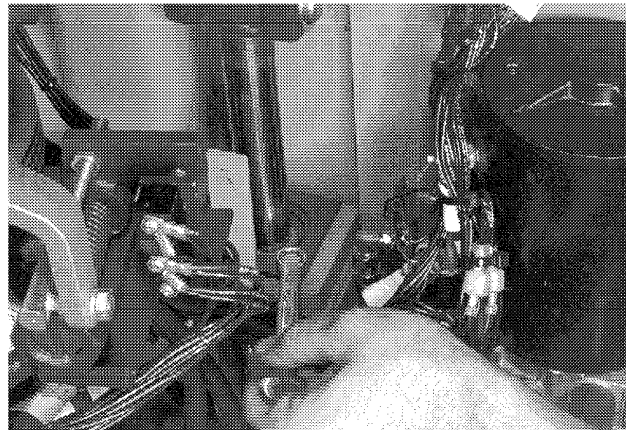

Figure 6-129: Removing the Retaining Plate
14. Remove the two (2) hex head cap screws securing the retaining plate at the top end of the cylinder and remove the plate. See Figure 6-129.